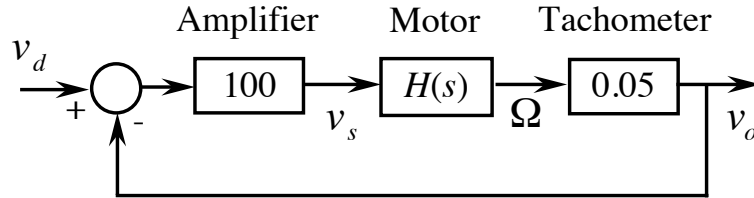

Figure 4: A spindle motor with controller
3. Figure 4 shows the block diagram of a spindle motor along with its controller. The purpose of the controller is to make sure that the motor spins at constant speed. The motor, with input voltage  $v_s$  and output angular velocity  $\Omega$ , has the following transfer function.